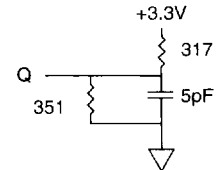

Fig. 2 OUTPUT LOAD EQUIVALENT
- The load used for V_{OH}, V_{OL} testing is shown in Fig. 2. AC load current is higher than the shown DC values. AC I/O curves are available upon request.